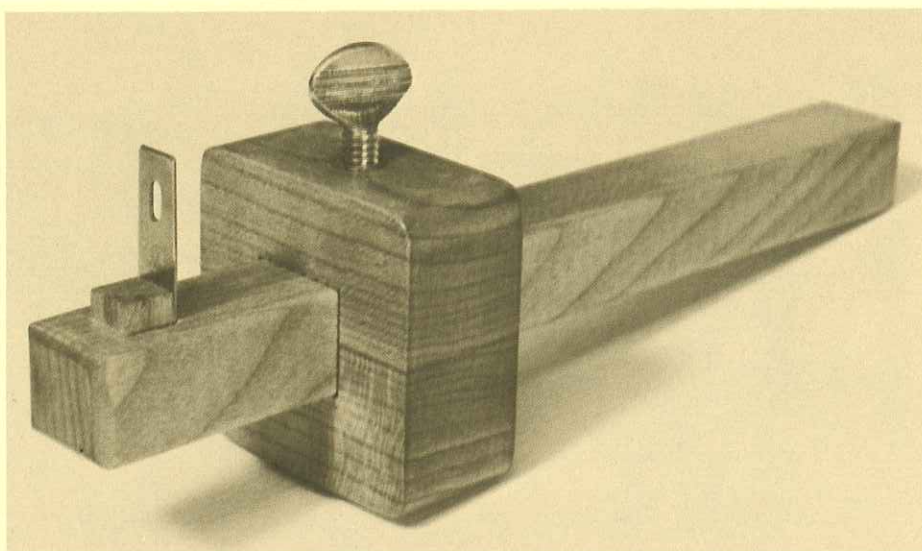

FIGURE 1
**8** To clean out waste for half-pins, chop straight down on shoulder line (marked in Fig. 1). Then pare out a small V-notch so saw rests against this shoulder.
After getting the two halves (Fig. 1), I drilled a  $\frac{3}{4}$ " hole  $\frac{1}{8}$ " deep (for the penny), and followed with a  $\frac{3}{8}$ " hole for the rosan insert. Then I glued the two halves together so the dados formed a mortise.
The rough dimensions for the legs are 21"w x 20"h, and for the top: 21"w x 52"h, Fig. 1.